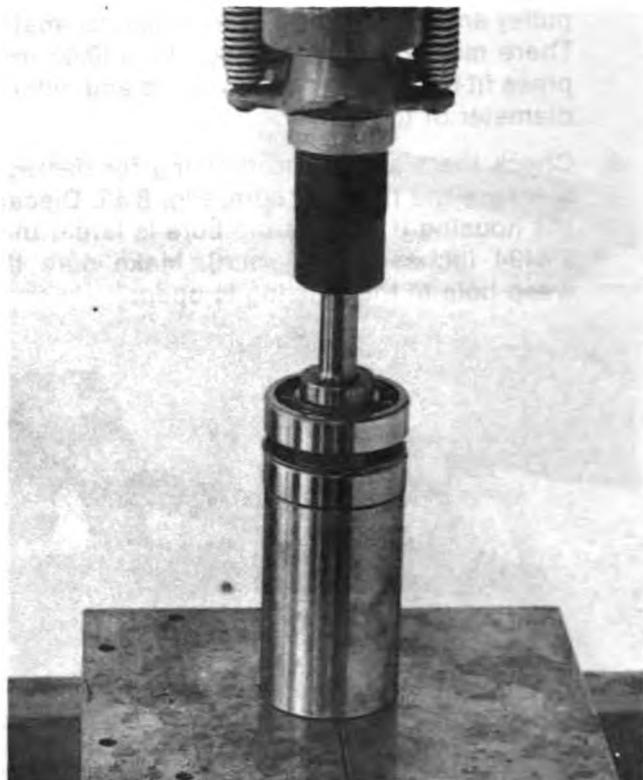

Fig. 8-47 (N10886). Install The Bearing Onto The Shaft.
11. Install the smaller retaining ring (8) onto the shaft.
12. Use the ST-658 to support the new outer bearing (6, Fig. 8-34). Install the bearing spacer (7) onto the shaft. Push the shaft and spacer through the bearing until the bearing is against the spacer, Fig. 8-47. Make sure the bearings turn freely.